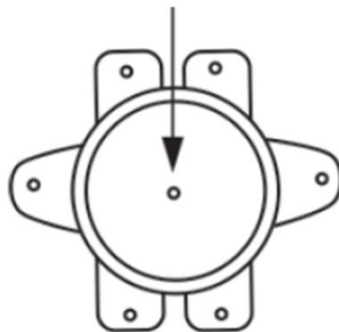

Fig 9
- Press the button located in the center of the thermal switch (round shape, near the heating element) until you hear a click, see Fig. 9;